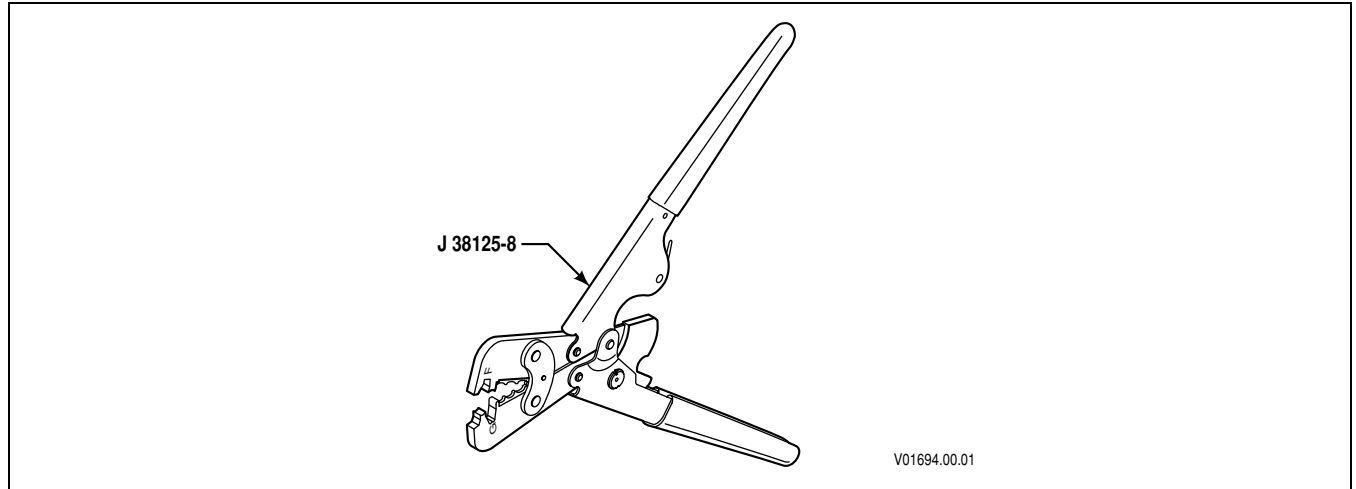

Figure E-16. Crimper J 38125-8
- Crimping Tool for Pre-insulated Crimp J 38125-8 (Figure E-16)